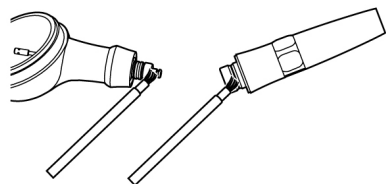

Fig. 21
- 1) Clean the inside of the handpiece connection with the cleaning brush (Fig. 21).
- 2) Clean the powder case connections with the cleaning brush (Fig. 21).